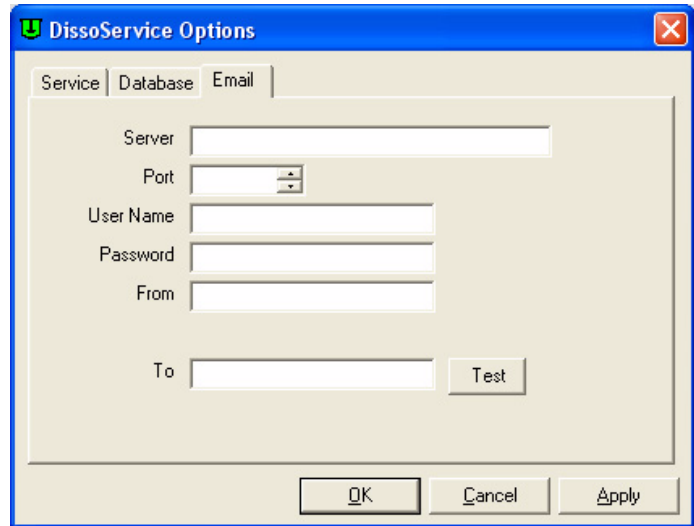

Figure 6 DissoService Options screen
- 3 On the toolbar, click **Tools > Options**. The DissoService Options screen displays (see Figure 6, “DissoService Options screen,” on page 35).